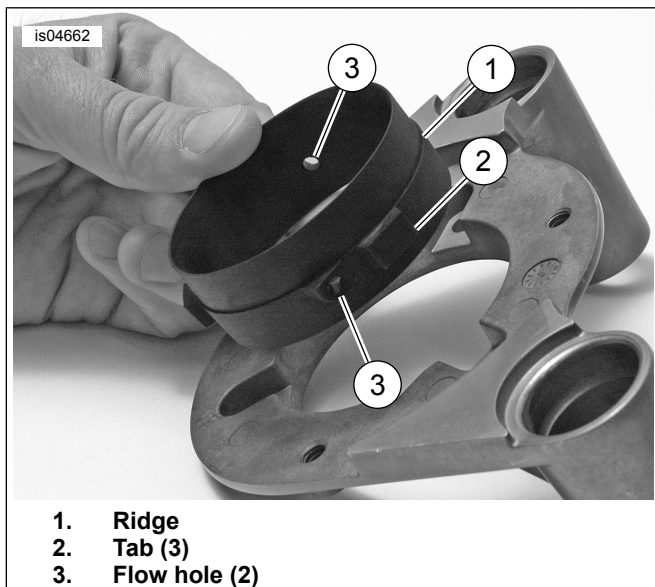
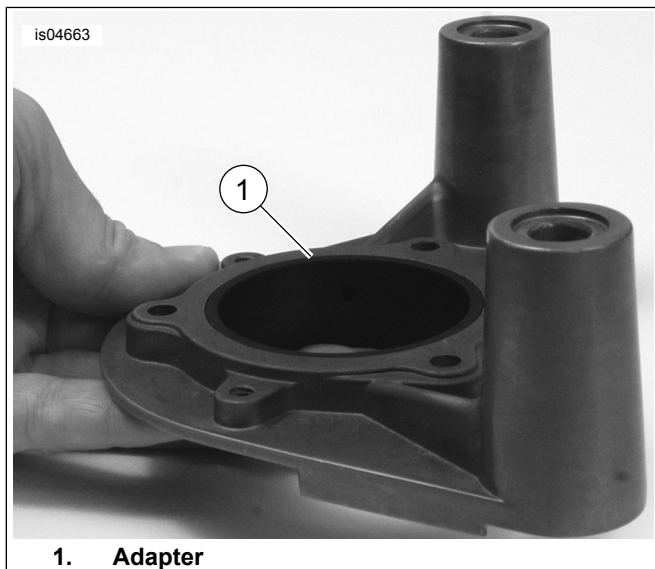
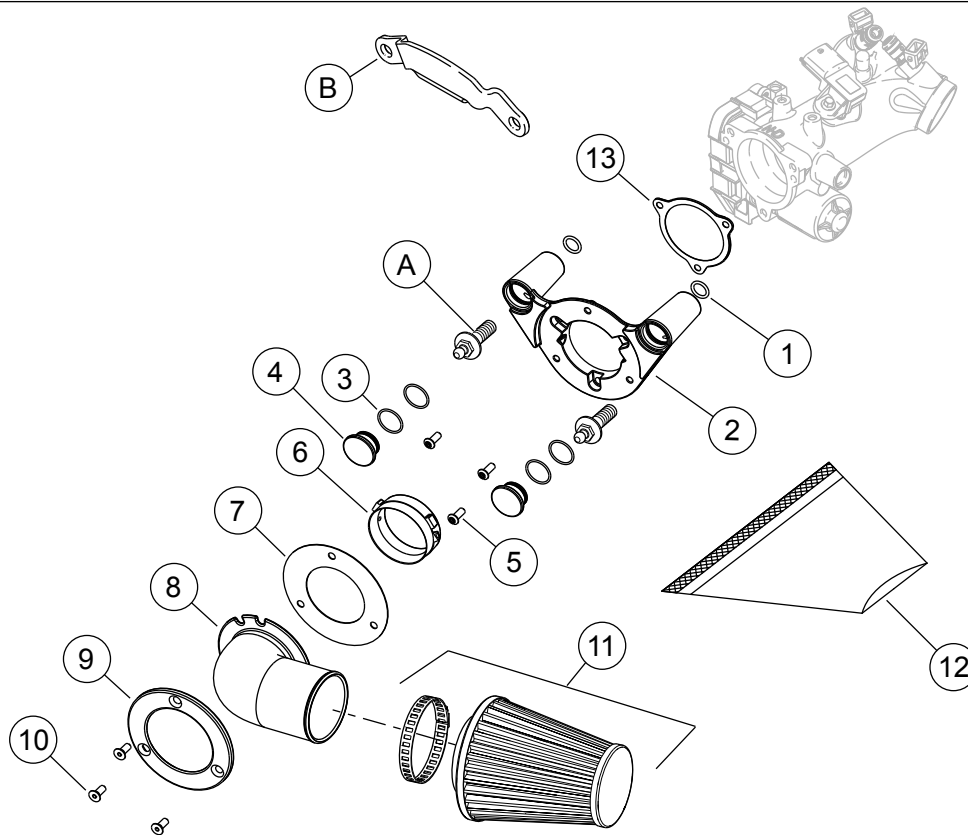

Figure 2. 50 mm Adapter
Figure 3. Adapter Positioned Correctly in Backplate
Figure 4. Service Parts: Screamin' Eagle "Heavy Breather - Elite" Performance Air Cleaner Kit
See Figure 4 and Table 1.
1. Remove the air cleaner backplate following the instructions in the service manual. Retain the two breather screws (A) removed from the backplate (see Figure 4). The remaining parts can be discarded.
2. See Figure 4. Remove and discard support induction module bracket (B).
9. **For models equipped with 50 mm induction module:** See Figure 2. The outside of the outer half of the plastic adapter (item 6 in Figure 4) is marked "This side out - 50 mm only." The inner half is indexed with three tabs (2) and two breather flow holes (3). Insert the indexed side into the backplate, aligning the tabs and flow holes with the flow holes in the backplate. Check that the adapter is fully seated and oriented correctly with the markings visible. See Figure 3. When installed correctly, the adapter is flush on the induction module side of the backplate. **For models equipped with 58 mm induction module:** Discard adapter.
10. If removing the Original Equipment (OE) intake you must apply the provided Warning Label in a clearly visible area. We suggest attaching the sticker to the following: